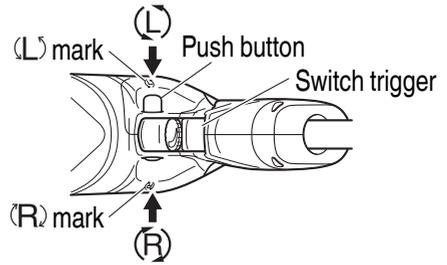

Fig. 5
6. Check the rotational direction (**Fig. 5**)